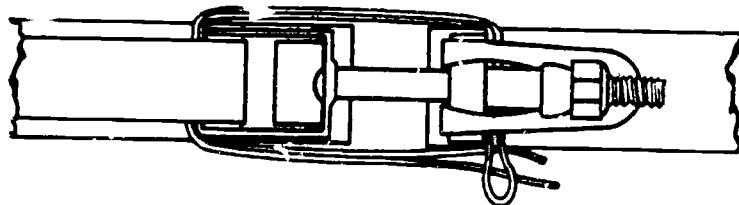

Figure 7. Side View, V-Band Clamp.
h. Insert the folded end of the wire through the opening on the far right side of the clamp. Pull the wire tight so that the folded end of the wire is straight away from the clamp and towards you. See figure 7.